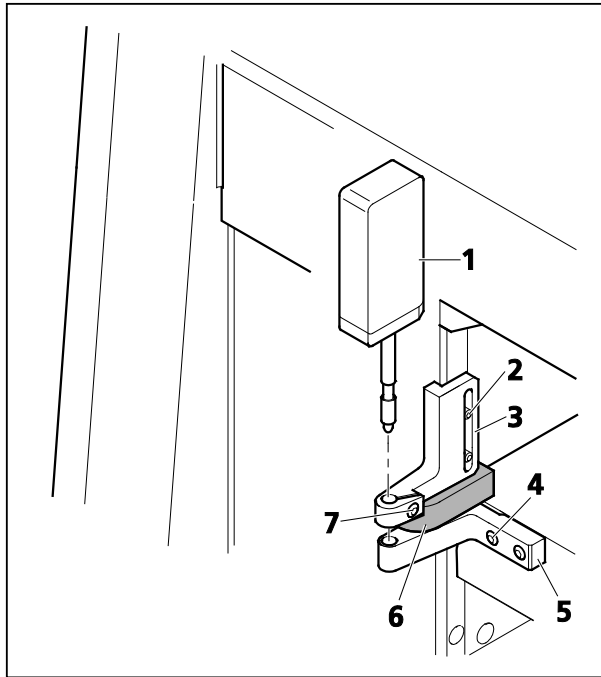

Fig. 40 Installing the focus linear sensor
- Apply the adjusting block (Fig. 40/6) to the stage carrier and fix the top part of holder Z (Fig. 40/3) on it.
- Bring the top part of holder Z (Fig. 40/3) into line with the adjusting block and fasten it to the stand using both screws (Fig. 40/2).
- Press the bottom part of holder Z (Fig. 40/5) against the adjusting block, so that the stage carrier and the bottom part of holder Z are flush.
- Fasten the bottom part of holder Z (Fig. 40/5) with both screws (Fig. 40/4) to the stage carrier.
- Insert the focus linear sensor (Fig. 40/1) in the top part, bring it into line with the lower edge and fasten it by means of clamping screw (Fig. 40/7).